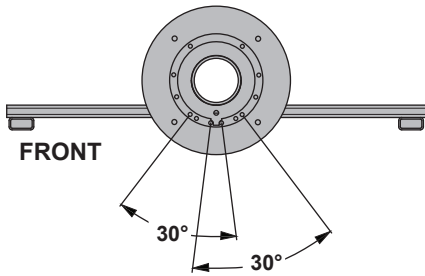

fig. 4.1
- 4** Refer to fig. 4.1, 4.2, 4.3, and 4.4, select the desired swivel degree. Using a 3/32" allen wrench, fasten two set screws (**K**) where indicated below to the outside of desired angle in steel base (**C**).